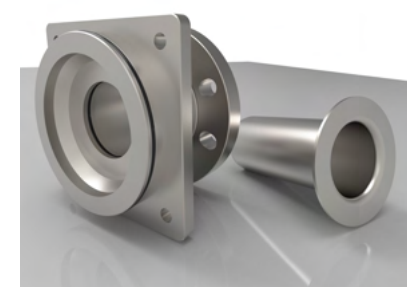

Figure 16d
3. Load the insert into the port flange. (Figure 16d)